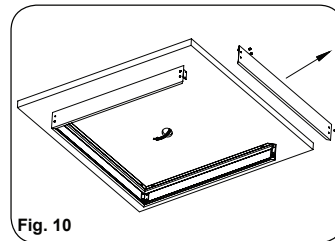

Fig. 10
3. After mounting the frame onto ceiling, remove one side of the mounting frame. (Fig. 10)